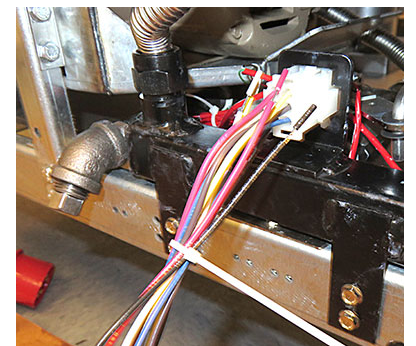

Figure 31
38. Use the wiring diagram on the back page for reference when attaching any wiring from an external waste system. Connect the wiring to the 9-pin harness on the dispose manifold, on the rear of the fryer (see Figure 31).